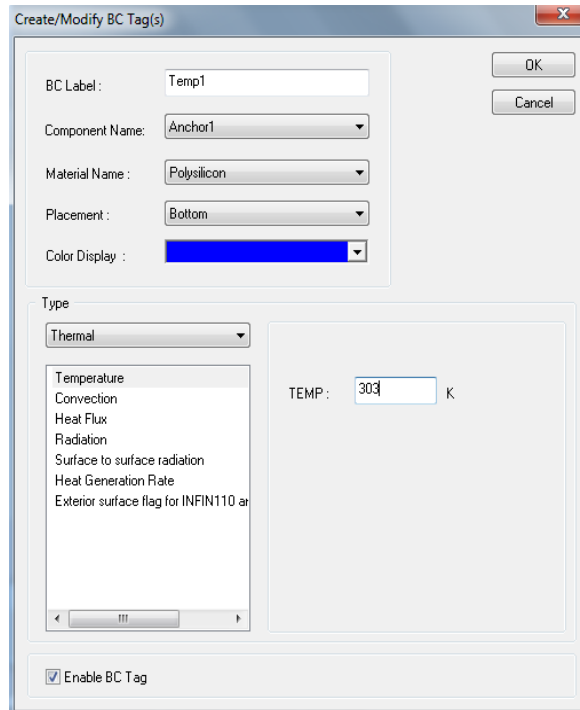

Figure 149: Specifying Temperature BC Tag.
- ☑ To specify the temperature BC tag as shown in (Figure 149):